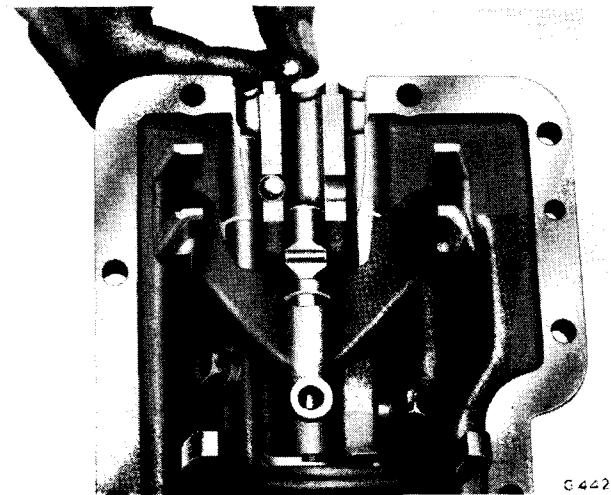

Fig. 17. Replacing interlock balls
Before pushing the shaft (109) to its neutral position, insert the two interlock balls (110) into the transverse bore connecting the shaft bores at the rear of the casting as shown on Fig. 17, then push the shaft further into the cover until the selector plunger registers with the middle indent, and the interlock balls and plunger are retained by the shafts.